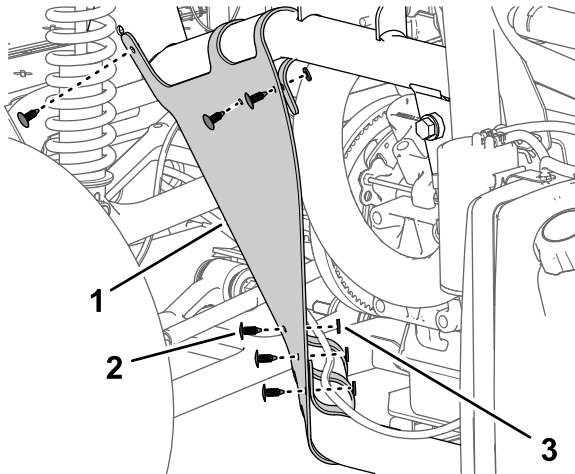

Figure 10
4. Remove the 6 push-in fasteners and 5 washer (9/16 x 1/2 inch) that secure the inner-fender shroud to the frame of the machine (Figure 10).